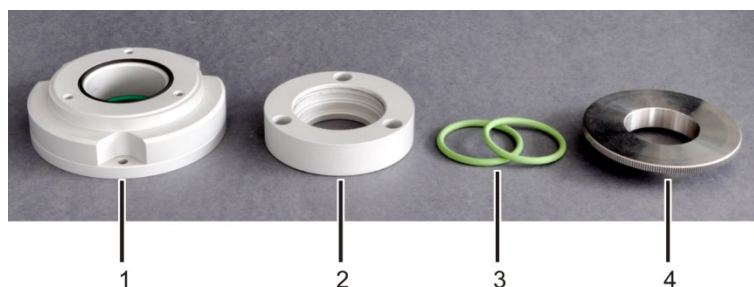

Figure 46 Components for connecting the TIC reactor and ceramic tube
The gas connection at the base element (1 in Figure 46) remains unattached during measurements with the automatic TIC solids module. The base element and pressure ring (2) are screwed together gas-tight to prevent ambient air entering the system or measuring gas escaping at this point.
Only tighten the knurled ring (4 in Figure 46) slightly.